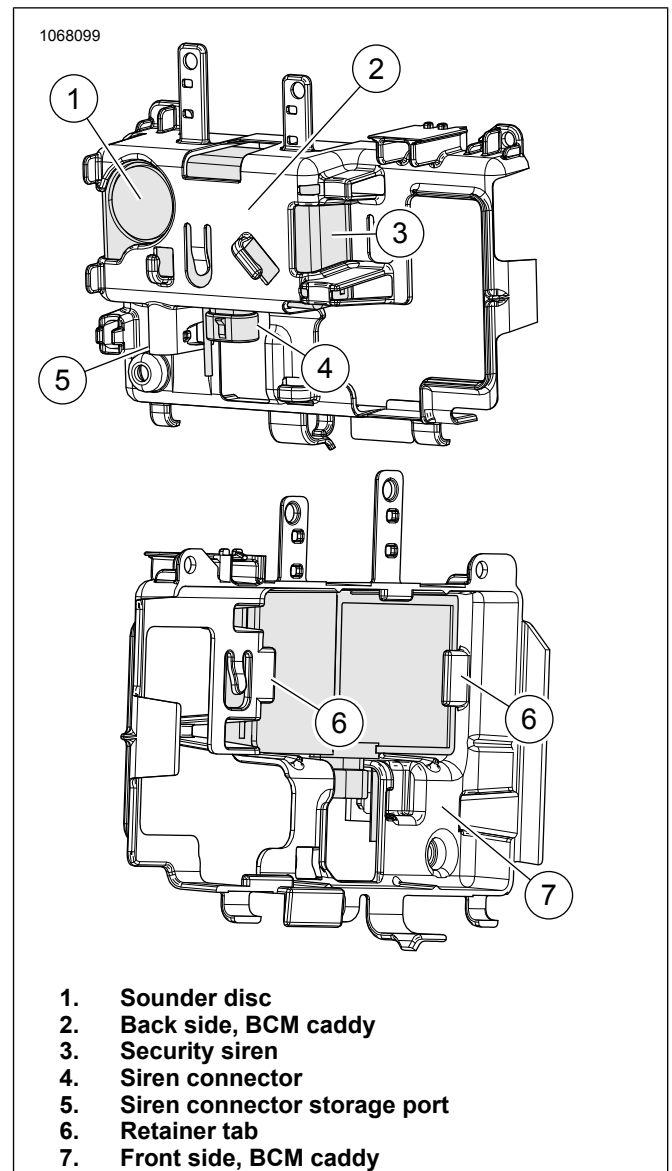

Figure 27. Security Siren and BCM Caddy: (Removed for clarity)
7. See Figure 27. Remove siren connector from siren connector storage port (5) in the back side of the BCM caddy (2).